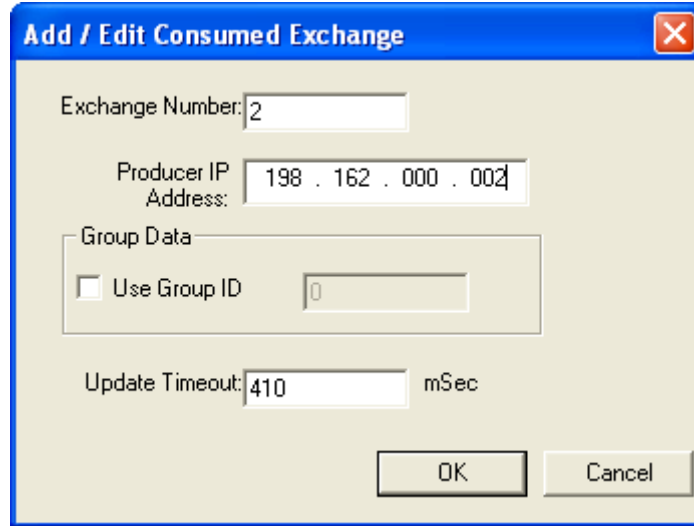

Figure 6.11– Creating Consumed Exchange 2 - Node 1
- Now that Exchange 1 has been configured as a Produced Exchange for Node 1, it is time to configure Exchange 2 as a Consumed Exchange for Node 1. To do this, first select the **Consumed Exchanges** tab (Figure 6.2) and click on the **Add Exch** button to create a Consumed Exchange. Then fill in the parameters, as shown in Figure 6.11 below, and click **OK**.